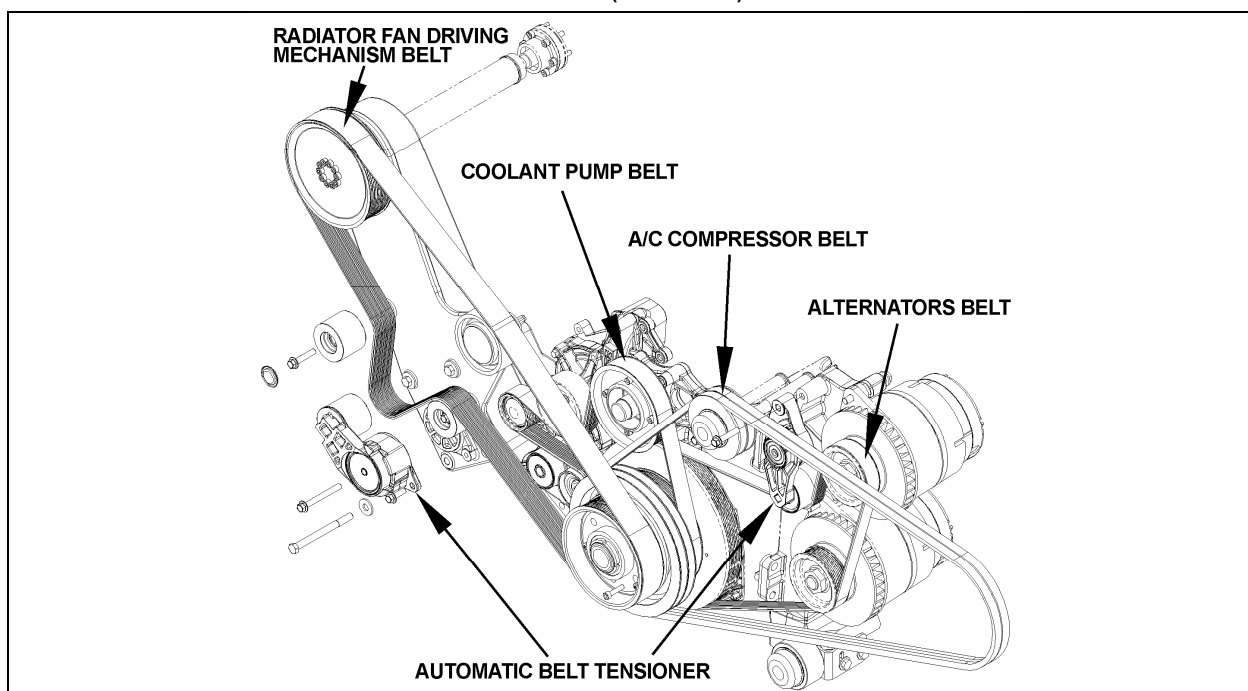

FIGURE 23: TWIN BOSCH ALTERNATORS INSTALLATION (VOLVO D13)
Install the alternators belt, the coolant pump belt, the A/C compressor belt and then the radiator fan driving mechanism belt (figure 23).
- Insert a $\frac{3}{4}$ " socket drive into the automatic belt tensioner opening (Fig. 23).